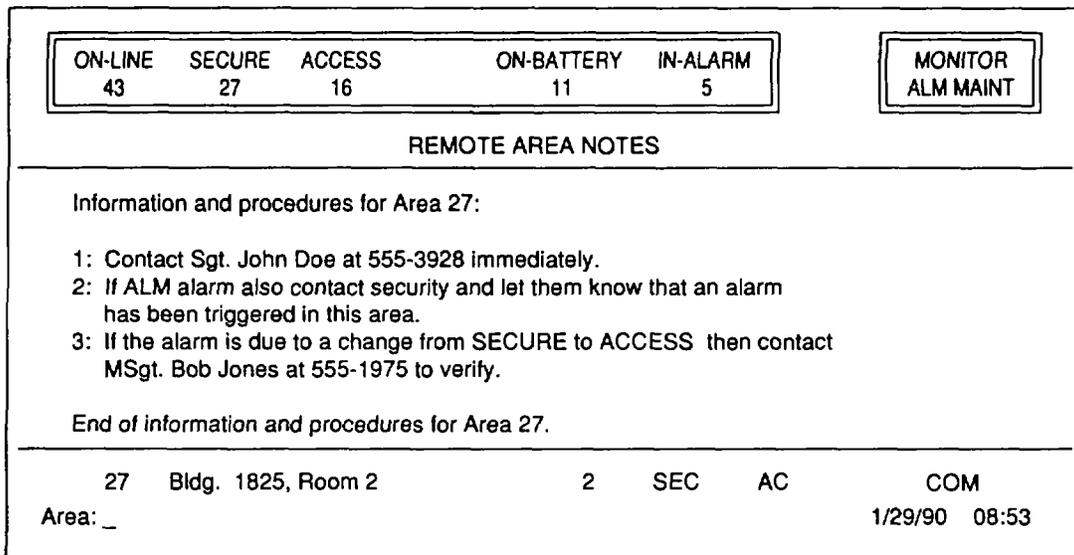

Figure 1-8. Remote Area Notes Screen (Typical).
1.15.5 Remote Area Notes Screen. The Remote Area Notes Screen (figure 1-8) provides notes for the selected area and is divided into three sections. The area notes are entered during the setup mode by designated personnel. The notes give specific information that pertains to the selected area. Each of the 64 areas can be selected from the command line located at the bottom of the screen. Areas are selected by entering an area number between 1 and 64 on the command line and pressing enter. After the area is selected the notes for the selected area are displayed on the screen.